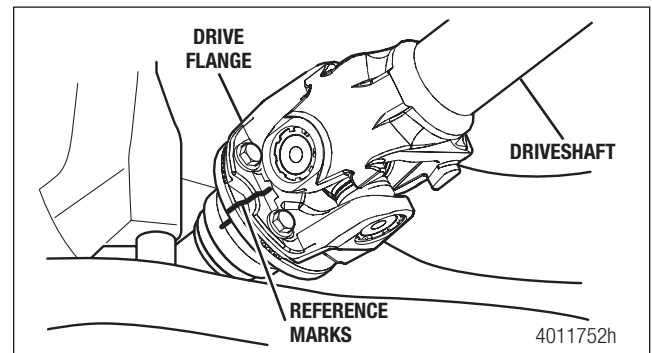

Figure 5.101
2. Align the driveline drive flange to the vehicle input drive flange according to the reference marks made during removal. The driveline must be reinstalled with the same phasing. Figure 5.101.